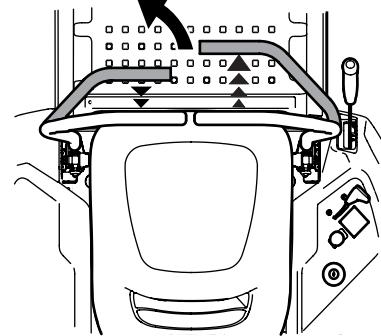

Figure 3-5
- To turn to the left, move the left drive control lever rearward of the right drive control lever. See Figure 3-5.